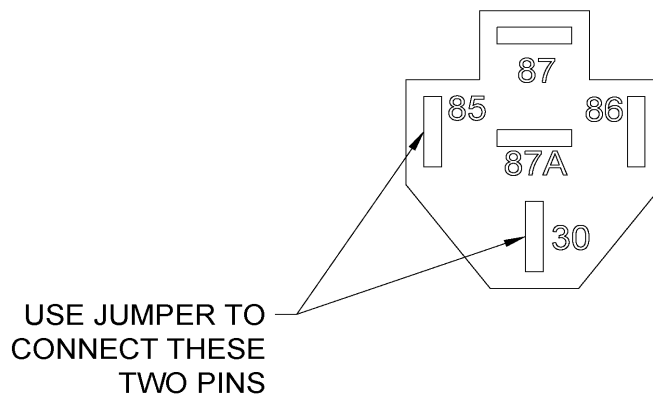

Figure 16 - Jumper Location
7. Insert jumper (P/N: 475300359) into **"STOP RELAY"** connector located near PDM in driver side front compartment. The jumper will go from pin 85 to pin 30. Reference Figure 16 for jumper pin locations.